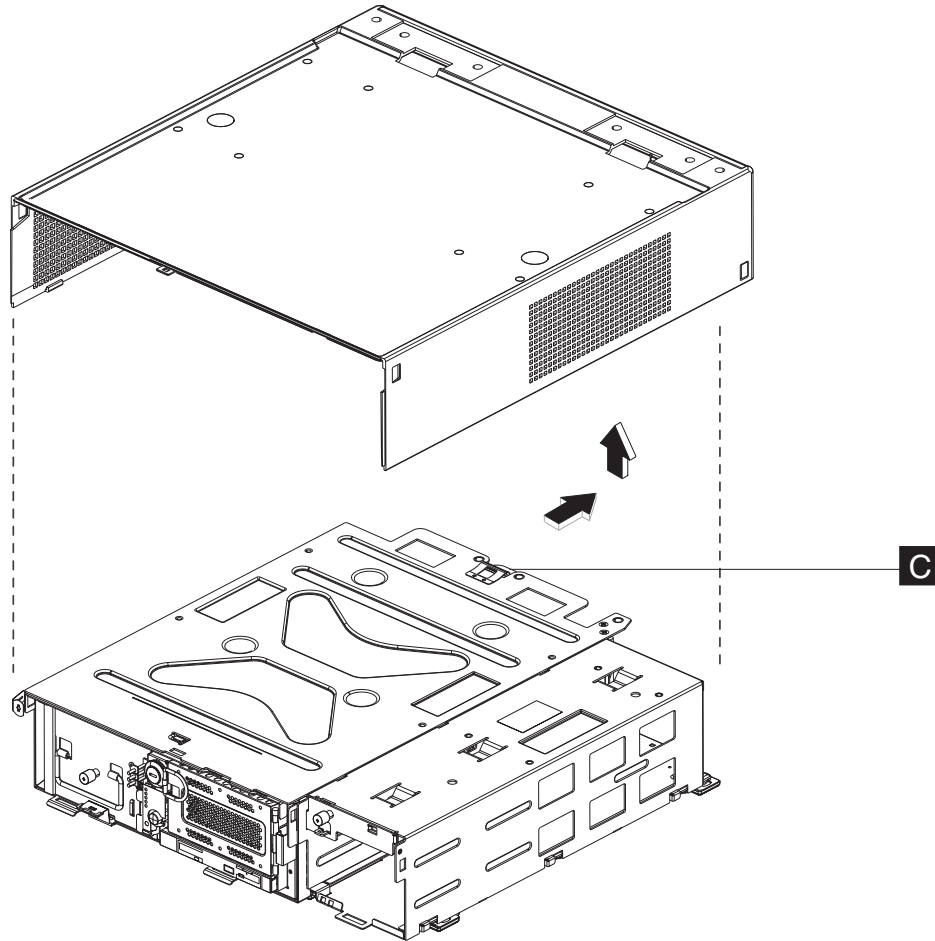

Figure 21. Removing the top cover
1. Locate the metal holding clip located in the rear center of the top cover (**C** in Figure 21).